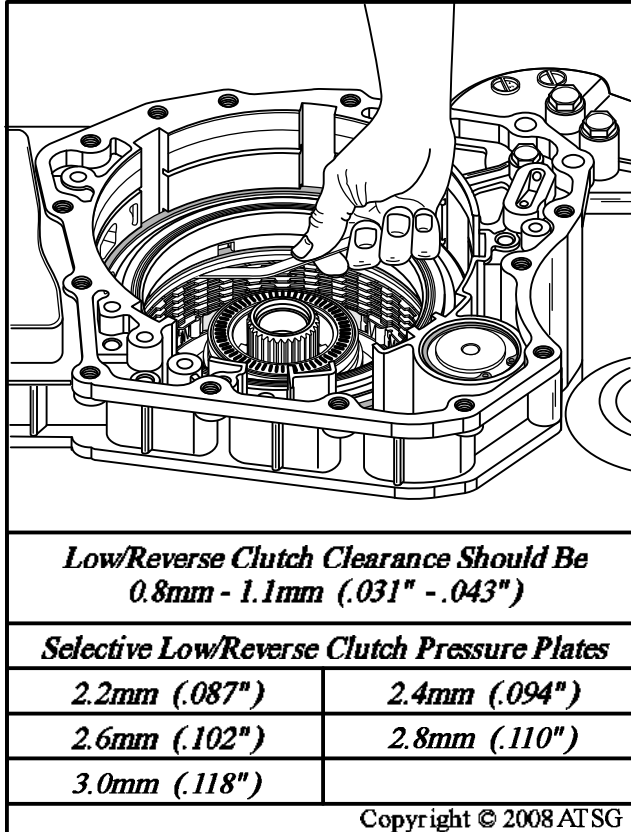

Figure 193
13. Measure the low/reverse clutch clearance using feeler gage, as shown in Figure 193, between the pressure plate and top friction.
14. Change selective pressure plate as necessary using the chart in Figure 193.